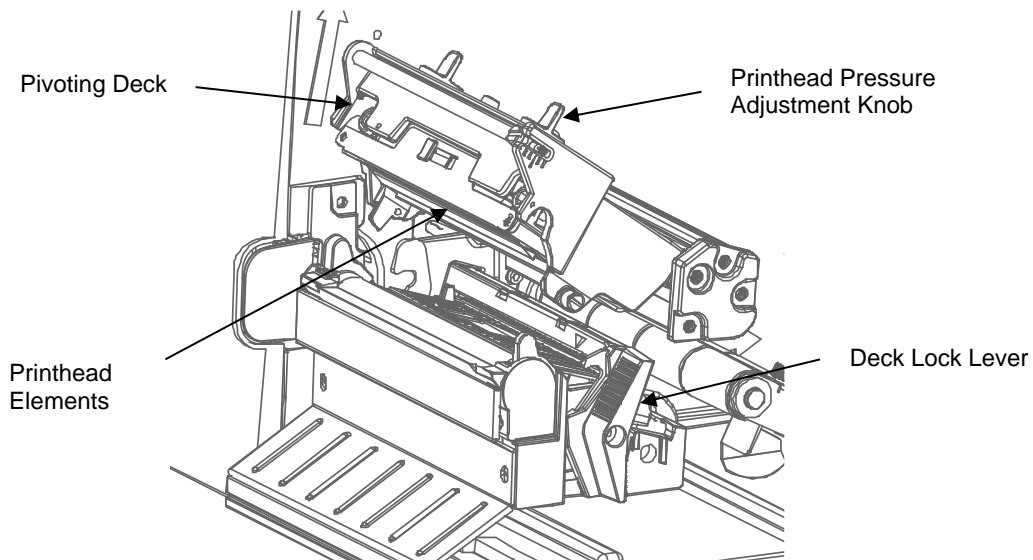

Figure 15 Opening the Pivoting Deck
3. Close the pivoting deck and rotate the deck lock lever fully counterclockwise. (Figure 15.)